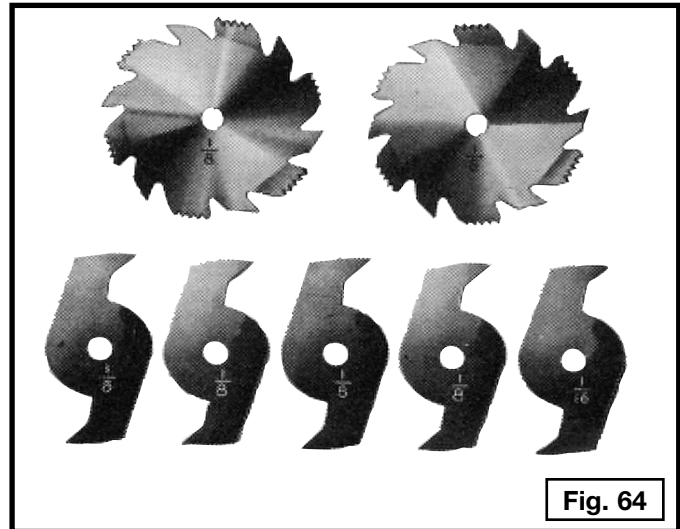
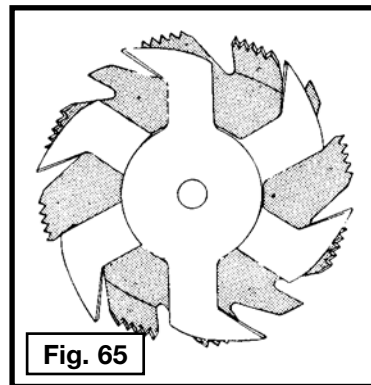

Fig. 64
Fig. 65
Dadoing is cutting a rabbet or wide groove into the workpiece. Most dado head sets are made up of two outside saws and four or five inside cutters, (Fig. 64). Various combinations of saws and cutters are used to cut grooves from 1/8" to 13/16" for use in shelving, making joints, tenoning, grooving, etc. The cutters are heavily swaged and must be arranged so that the teeth do not hit each other during rotation. The heavy portion of the cutters should fall in the gullets of the outside saws (Fig. 65). The saw and cutter overlap is shown in Fig. 66 - (A) being the outside saw, (B) an inside cutter, and (C) a paper washer or washers, used as needed to control the exact width of groove. A 1/4" groove is cut by using the two outside saws. Position the teeth of the saws so that the raker on one saw is beside the cutting teeth on the other saw.